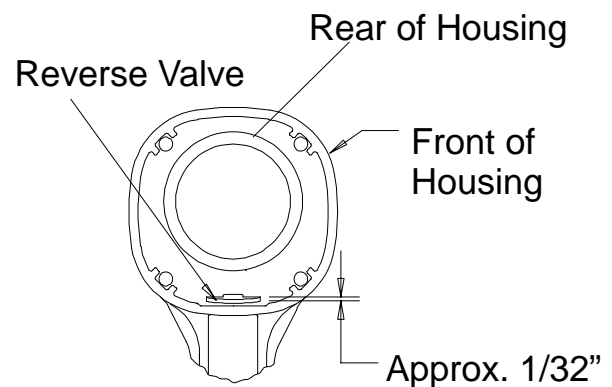

Figure 13
3. When the Reverse Valve has been installed, rotate it so that the tab is at the rear of the Housing. See Figure 13.